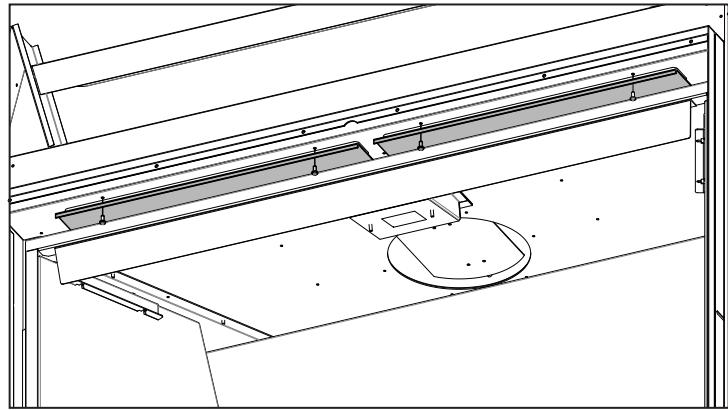

Figure 40: CSS Cover Plates
Step 4. Remove the two cover plates on the ceiling of the unit. These are secured by four (4) T-20 screws. See Figure 40.